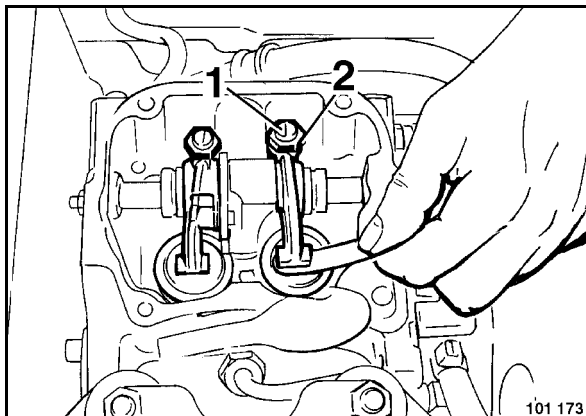

Fig. 57
- Slightly slacken the counter nut 2 (Fig. 57).
- Adjust setscrew (1) with a screwdriver, until the feeler gauge can be inserted and pulled out with little resistance after retightening the counter nut.